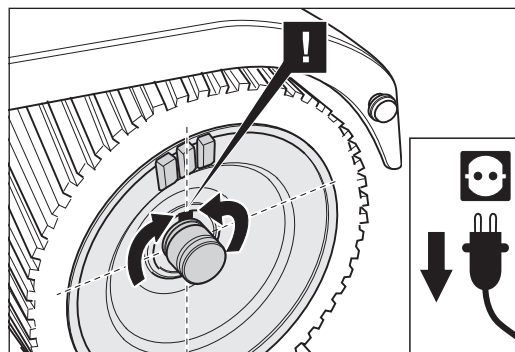

Fig. 80 Turn the sanding drum in such a way that the groove is pointing upwards to ensure that the parallel key is not lost.
- 7 Turn the sanding drum in such a way that the groove is pointing upwards to ensure that the parallel key is not lost (Fig. 80). Now pull the sanding drum out sideways out of the housing.